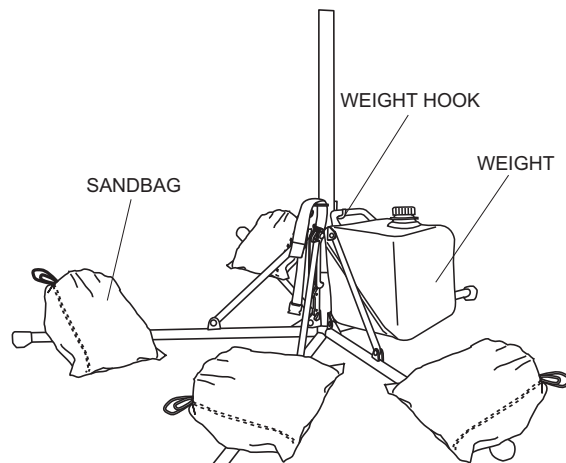

Figure 10. Sand Bags and Weight
6. To improve stability and prevent tipping of the lighting system, place sand bags on the outriggers or similar weight on the weight hook as shown in Figure 10.